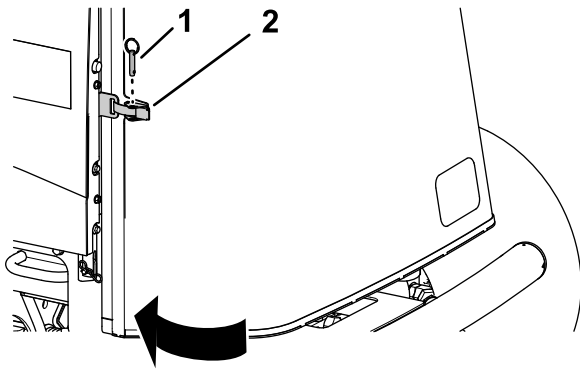

Figure 99
1. Close and latch the screen (Figure 99).